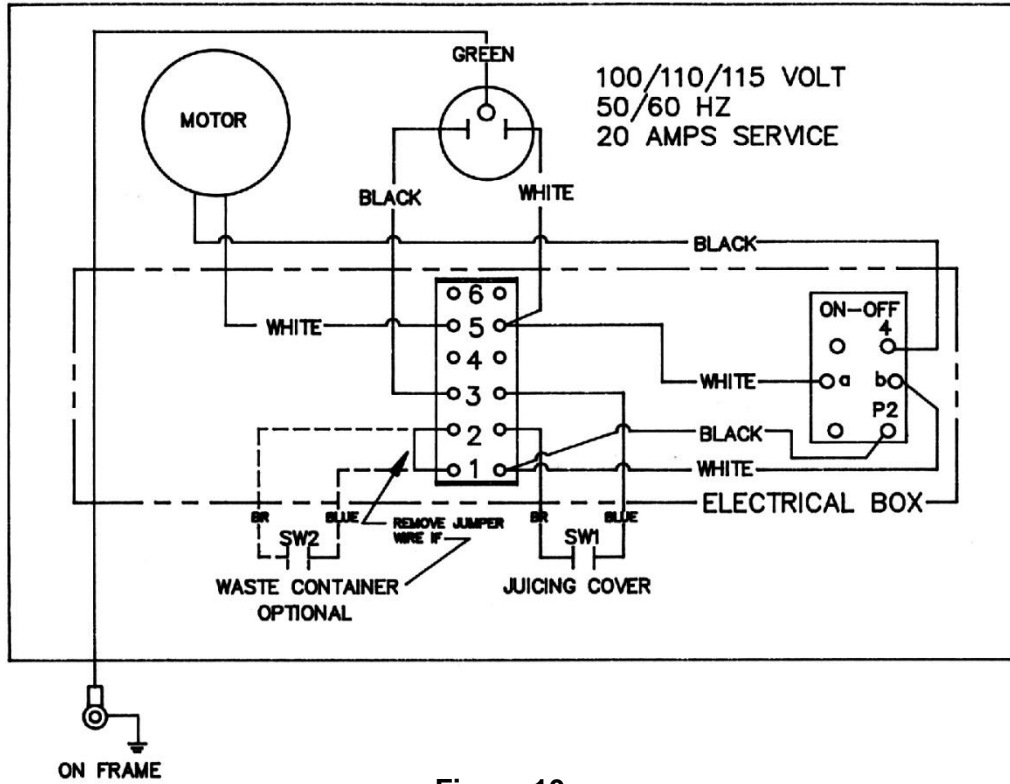

Figure 10a.
- b. **Check continuity across each switch. Refer to Figure 10a. and 10b.**